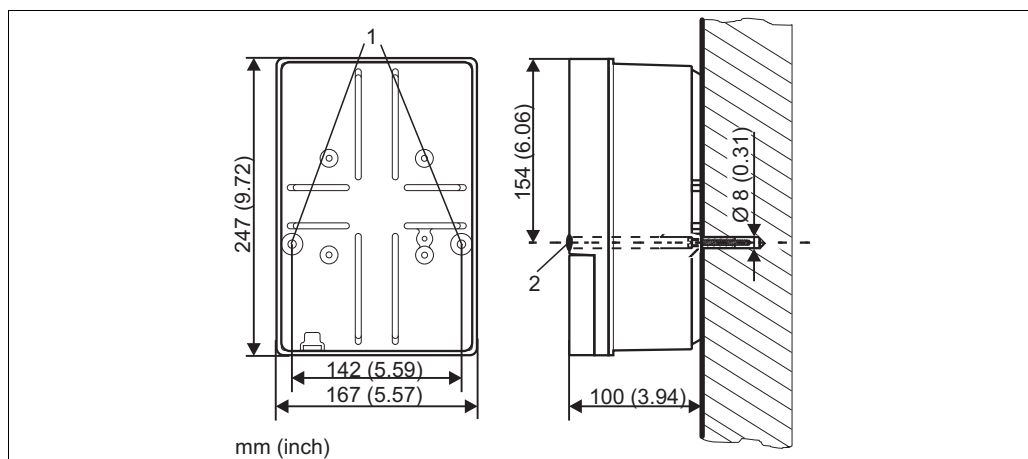

Fig. 7: Dimensions for wall mounting, securing screw: \varnothing 6 mm (0.24"), wall plug: \varnothing 8 mm (0.31")
1. Bore the holes as per Fig. 7.
2. Push the two securing screws through the mounting bore holes from the front (item 1).
4. Cover the bore holes with the plastic caps (item 2).